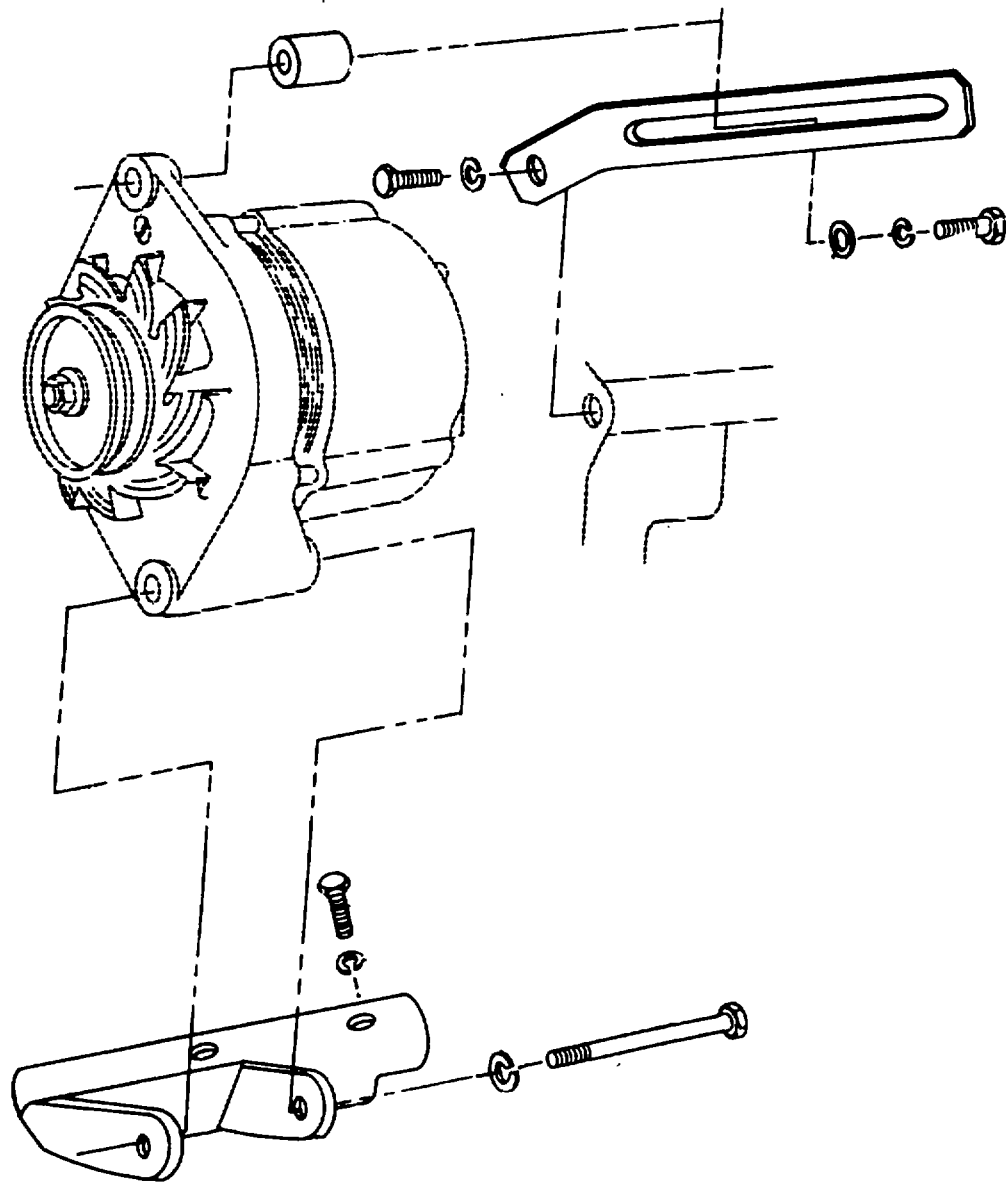

Figure 5-5. Delcotron Alternator Cross Section (2 of 2).
(1) The alternator assembly is hinge-mounted on left side of diesel engine. It is belt-driven from an accessory pulley driven from balance shaft. See figure 5-5.
(2) The alternator is a Delco "Delcotron" heavy-duty unit. The shaft rotates in a roller bearing at slip ring end and a ball bearing at driving pulley end. Bearing grease reservoirs contain enough lubricant to eliminate need for periodic lubrication. Two brushes carry current through two slip rings to field coil mounted on rotor.
(3) No periodic adjustment or maintenance is required on alternator assembly.